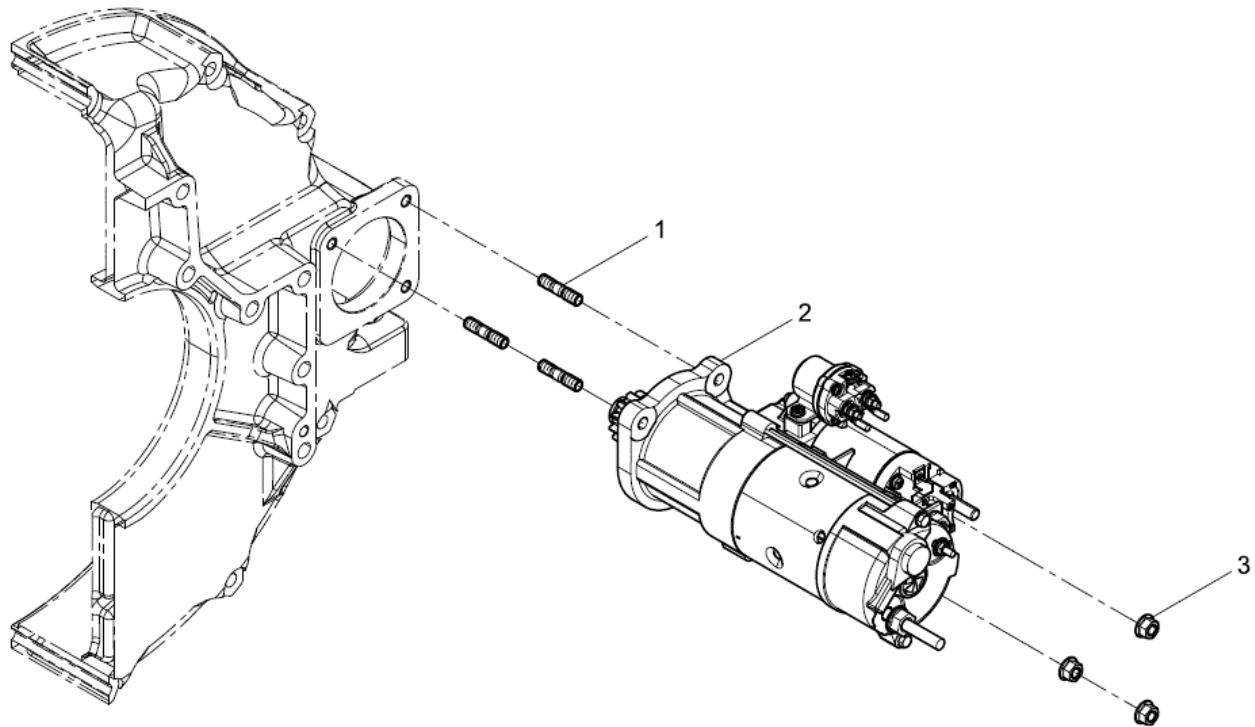

Figure 134. Starter Motor Assembly
2. With a 16mm wrench remove the starter nuts (Figure 134, Item 3)
3. Remove the starter (Figure 134, Item 2).
2. Place the starter motor (Figure 134, Item 2) into the flywheel cover and ensure it is engaged correctly.
3. Insert and torque the starter nuts (Figure 134, Item 3).